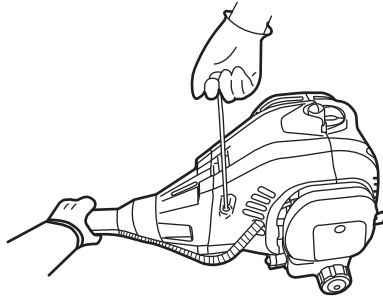

Fig. 13c
4. Pull the recoil starter handle (A7) firmly; repeat until the engine starts. (See Fig. 13c)